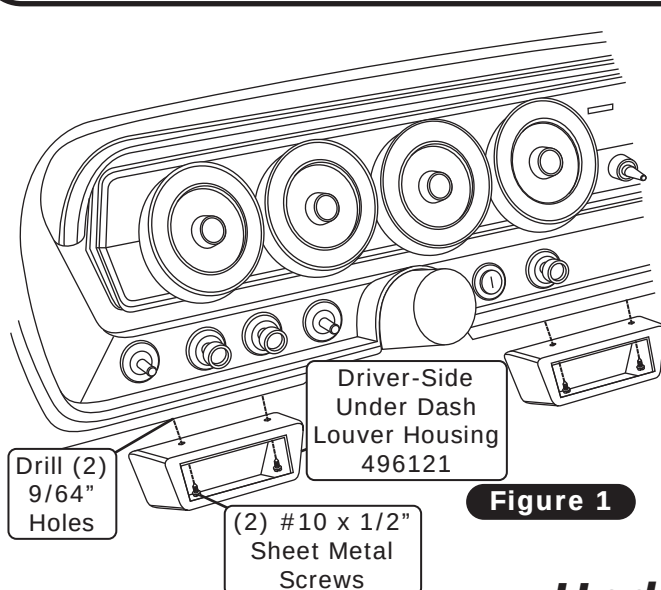

Figure 1
1. Place the driver-side louver housing under the dash. Mark and drill (4) 9/64" holes as shown in Figure 1, below.
2. Secure the louver housing to the dash using (4) #10 x 1/2" sheet metal screws as shown in Figure 1, below.